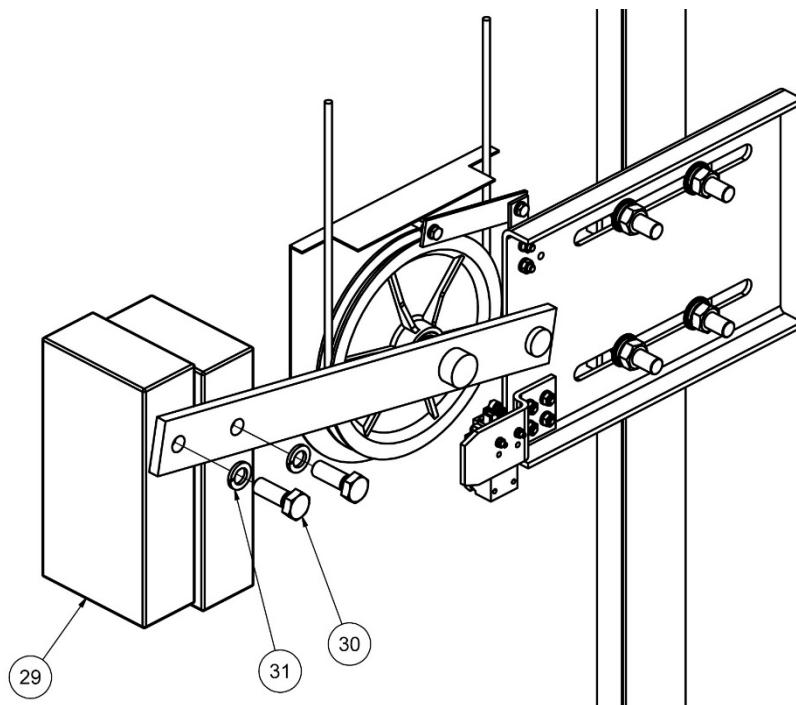

Figure 10
The weights (29) will have to be joined in the position as it shown in the *Figure 10*. Use two screws DIN 931 M14x80 (30). Fix them with two Grower washers DIN 127 M14 (31).